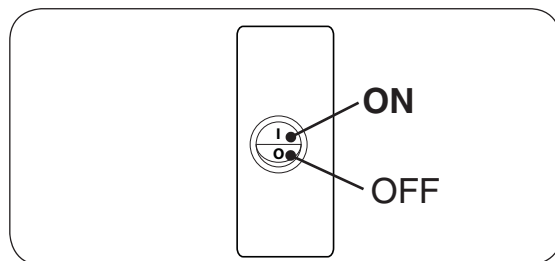

Fig. 37-2 Switch box, ON/OFF
2. Locate the ON/OFF switch at the front of the switch box. Press the switch to the **ON (I)** position. See Fig. 37-2.